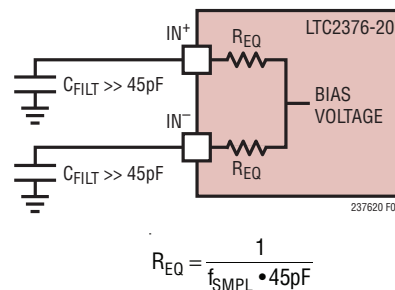

Figure 5. Equivalent Circuit for the Differential Analog Input of the LTC2376-20 at 250ksps.
**Fully Averaged** – If the coupling filter capacitors ( $C_{FILT}$ ) at the ADC inputs are much larger than the ADC's sample capacitors (45pF), then the sampling glitch is greatly attenuated. The driving amplifier effectively only sees the average sampling current, which is quite small. At 250ksps, the equivalent input resistance is approximately 89k (as shown in Figure 5), a benign resistive load for most precision amplifiers. However, resistive voltage division will occur between the coupling filter's DC resistance and the ADC's equivalent (switched-capacitor) input resistance, thus producing a gain error.